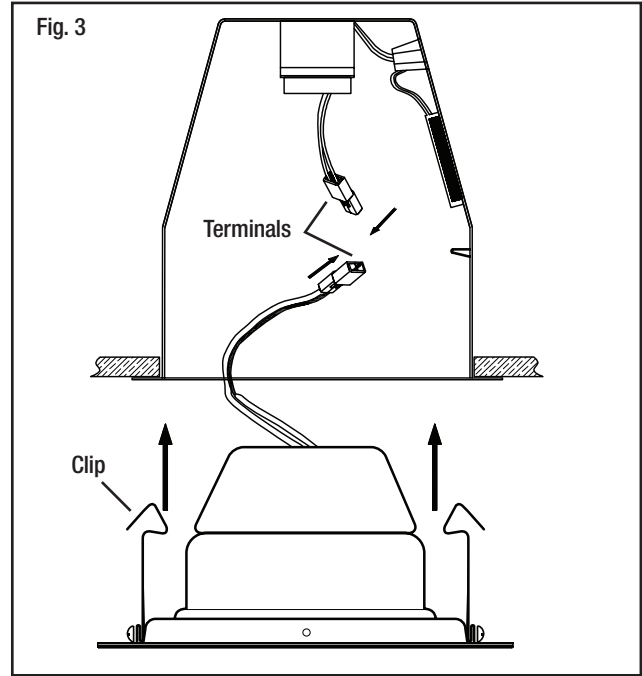

Fig. 3
- Connect the two terminals together. (See Fig. 3)